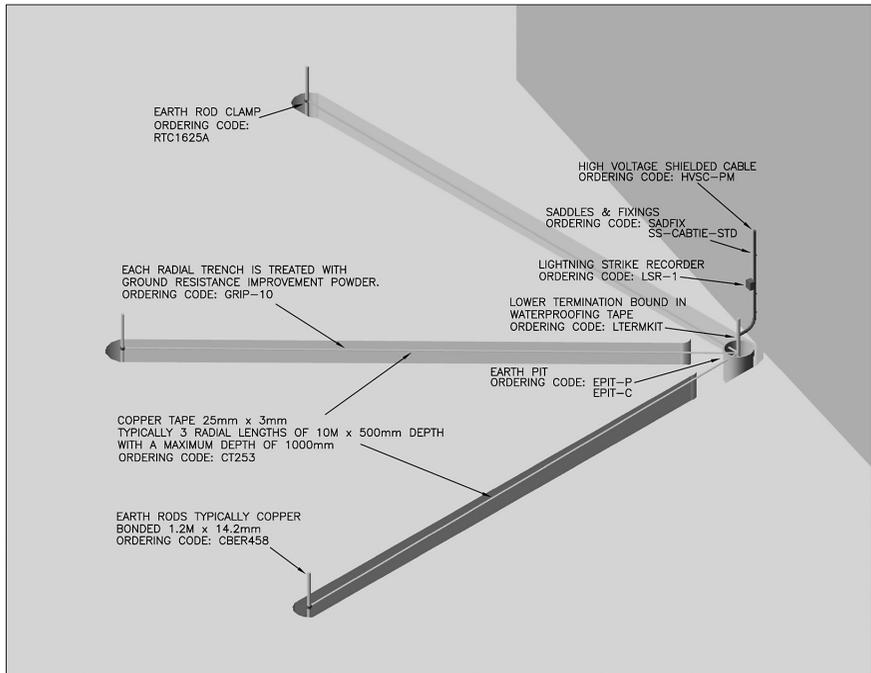

Figure 9.
LPI recommends the installation of a radial lightning earth as shown in figure 9.
- An earth pit should be installed where the end of the downconductor terminates to the lightning earth as shown in figure 9. This gives an access point for disconnection and future testing.